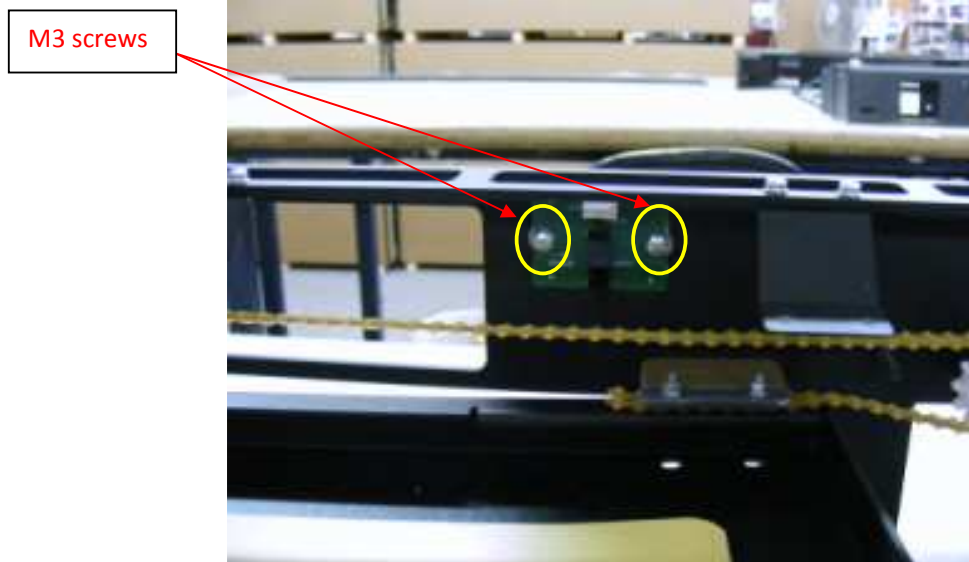

Figure 8-1
- Release two M3 screws (figure 8-1).